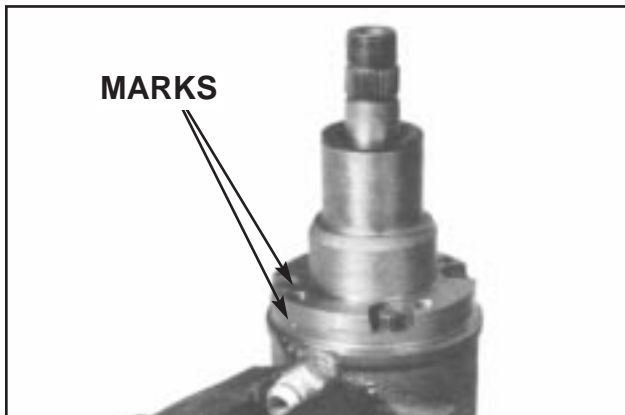
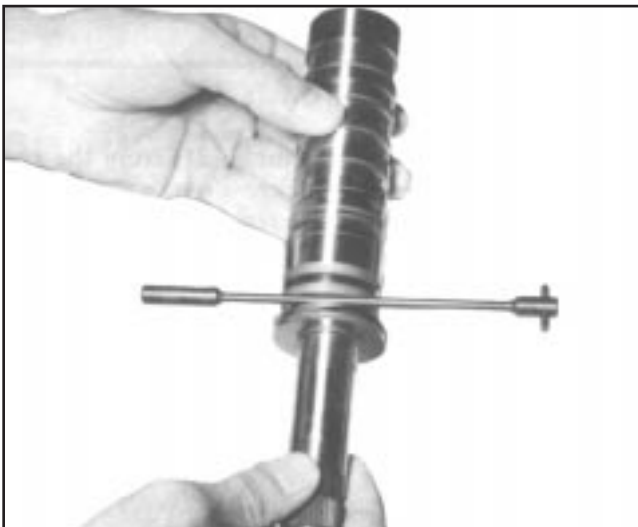

Figure HGA-11
Figure HGA-17
10. Reverse the HGA unit in the vise to place the input shaft (16) in a vertical position. Using a prick or center punch, mark the upper cover flange (7) in relation to a similar mark placed on the port face of the housing (25) to facilitate reassembly. (See figure HGA-11).
1. Insert ball (26) into its cavity in the housing.
2. Install new "o" ring (27) on plug and roll-pin assembly (28) and install in the housing (25) to 10-14 ft. lbs. torque.
3. Reclamp housing (25) in the vise as shown in Figure HGA-11.
4. Assemble thrust washer (13), thrust bearing (12), thrust washer (11) and retaining ring (10) on input shaft (16).
5. If the retaining spring (24) has been removed, install a new retaining spring. The spring must fit tightly.
6. Insert actuator ball (23) into ball seat located inside spool (22).
7. Assemble wave spring washer (14) over thrust washer (13) and thrust bearing (12). Insert the input shaft (16) into the spool, engaging the helix and ball with a counter-clockwise motion. This operation is best done while holding the spool in a horizontal position.
8. Using the mid-section of the torsion bar (20) as a gage, insert the gage between the spool end and the thrust washer (13). (See Figure HGA-17). This will position the spool in the necessary radial relationship with the input shaft spline teeth for assembly of drive ring (18).
9. Place the input shaft (16) and spool (22) assembly in a vertical position, with the shaft end on the table surface.